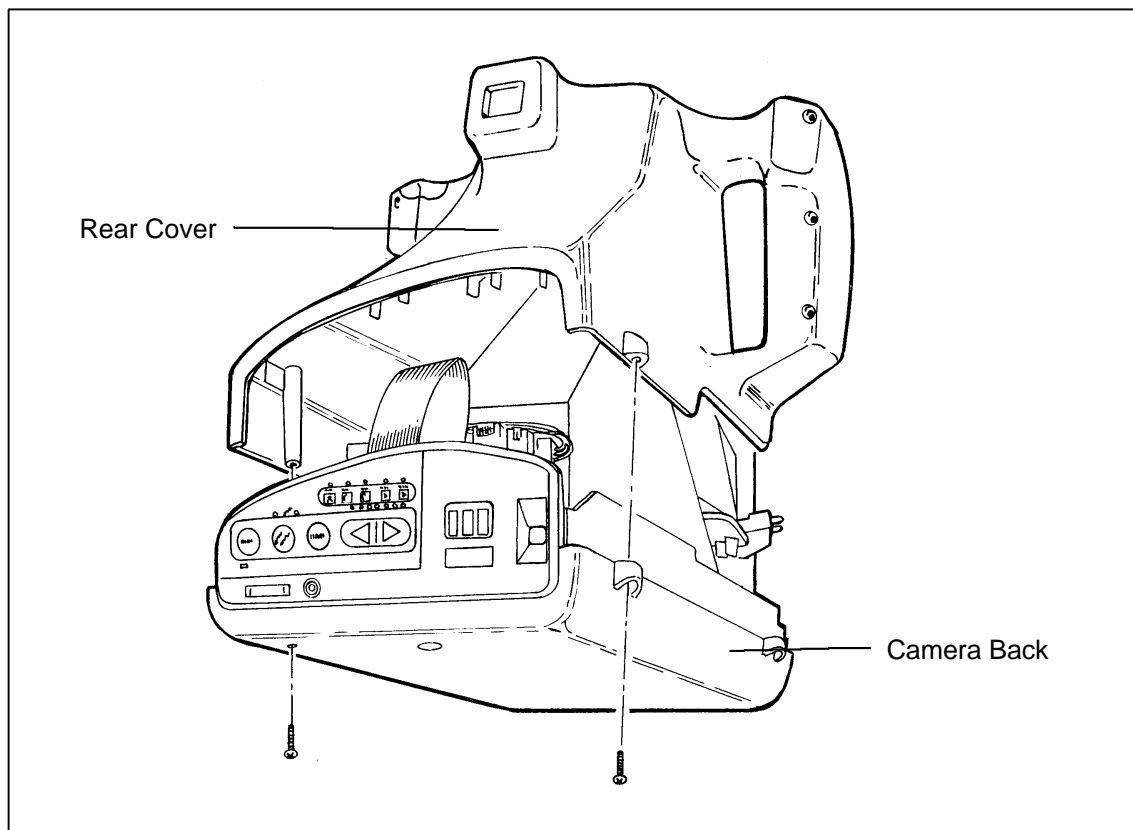

Figure 5-4 Rear Cover
- b. Using a torx driver, remove the screw securing the bottom of the rear (right side) cover to the camera back (Figure 5-4).
- c. Using a torx driver, remove the screw securing the bottom of the rear (left side) cover to the camera back (Figure 5-4).